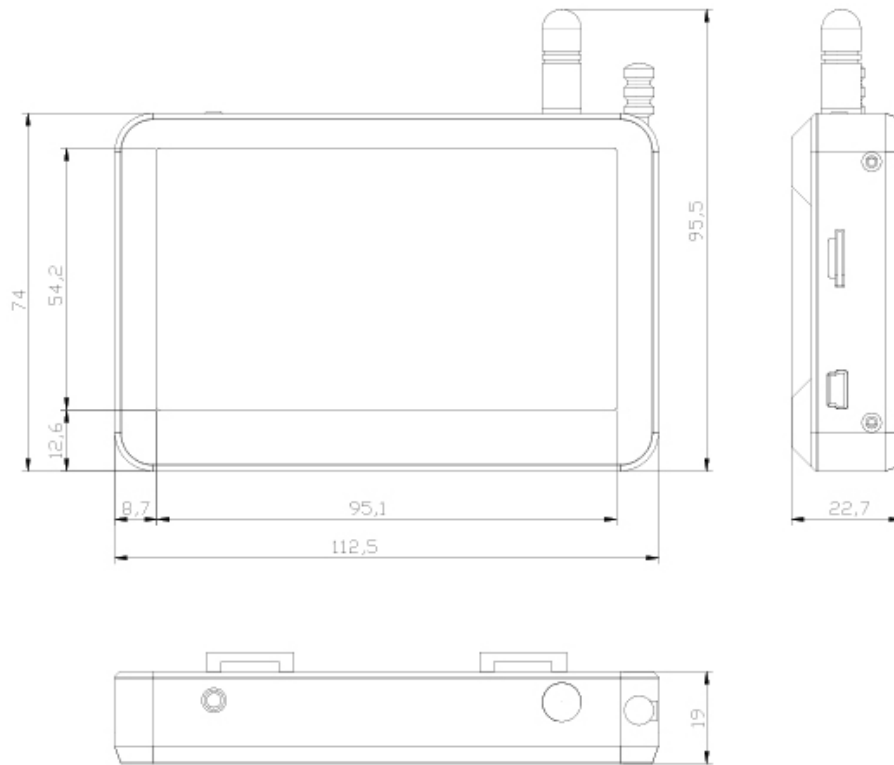

Figure 4
Overall dimensions of PDA are shown in Figure 4:
- Switch the laser module on by pressing and holding button 1 (Fig. 4) for several seconds. When connecting the laser module, a red LED blinks (2).
- After the laser module is switched on, some time will pass until automatic wireless communication is set between the profilometer and the PDA, which is accompanied by blinking of a blue LED (3) on the laser module. The LED goes out when the link is established.